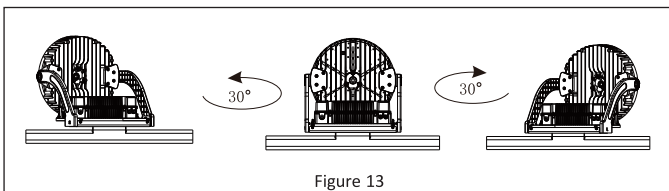

Figure 13
4. The fixture can be rotated 30° left and right by loosening the M16 and M12 bolts. **See Figure 13.**